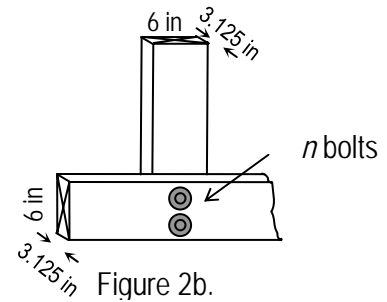

Figure 2b.
- The bottom chord that is continuous the length of the truss is connected as shown in Figure 2b.
- The minimum number of 5/8 in. diameter bolts required and their arrangement for the connection shown in Figure 2b if the maximum tension force in either member is 7.5 kips and the bolt holes are 3/4" in diameter.